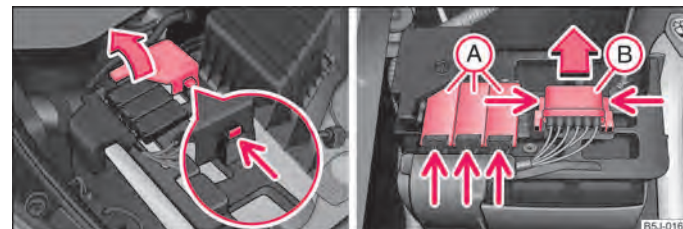

Fig. 155 The battery: Open the positive terminal cover/fuse cover
- Open the positive terminal cover (+) ⇒ fig. 155 - left.
- Press onto the interlocks of the fuse covers (A) ⇒ fig. 155 on the right and open the covers.
- Press together the interlocks of the fuse cover (B) simultaneously and push out the cover in the direction of the arrow.
- Some vehicles are only fitted with the cover (B) ⇒ fig. 155 on the right.